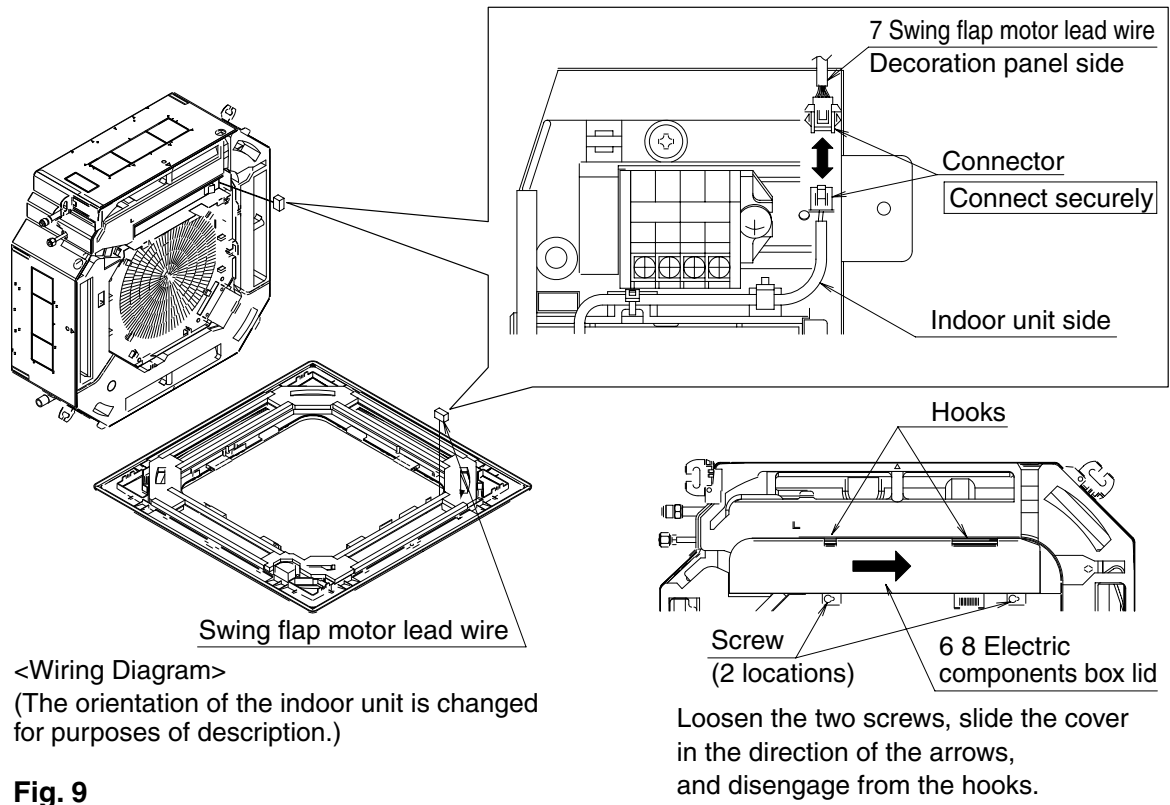

**Fig. 8**
- If gap is still left between the ceiling and the decoration panel after screwing the screws, readjust the indoor unit body height. (Refer to Fig. 8)